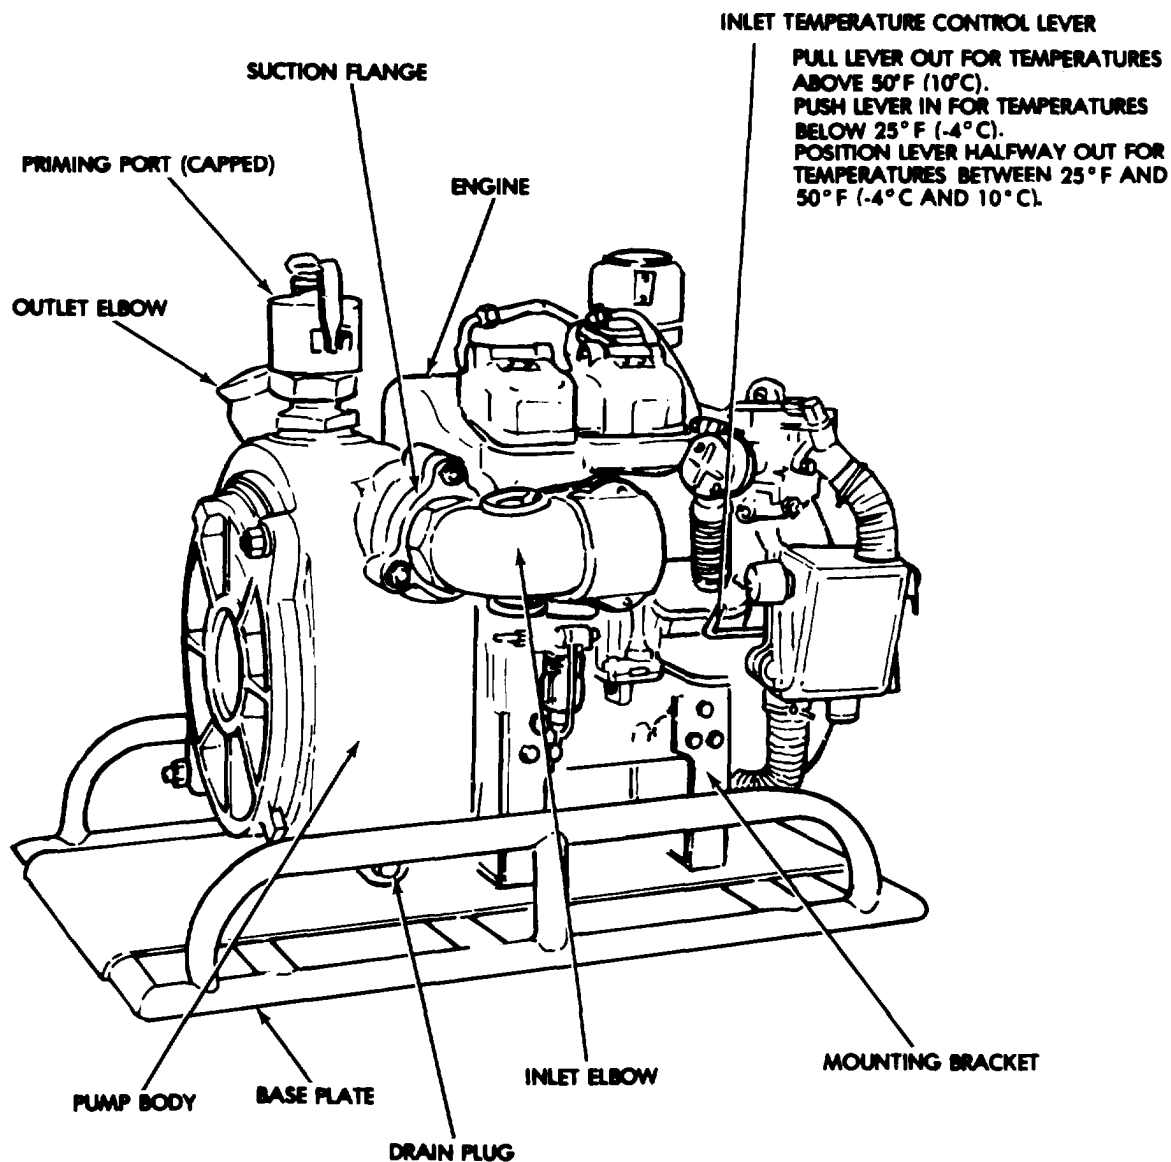

Figure 1-5. Pump Assembly (GED).
d. Pump. The pump is a self-priming unit, with the impeller screwed directly on the extension of the engine crankshaft/motor armature shaft. The pump and motor (figure 1-4) pump and engine (figure 1-5) are mounted on a base plate to facilitate removal for use in auxiliary pumping operations.